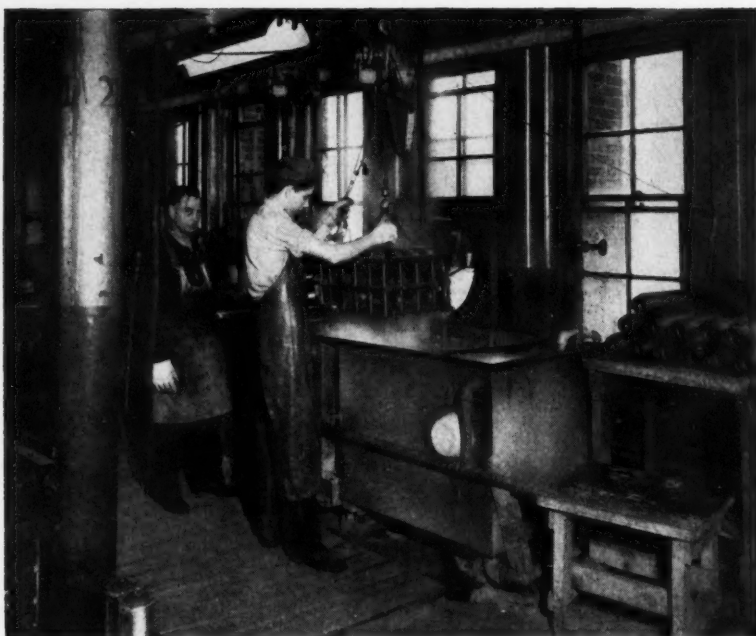

Fig. 8. The Intervening Forming and Machining Operations Make a Second Cleaning Operation Necessary to Remove All Oil, Chips, and Dirt
for the adapter brazing operation. First, however, they are cleaned again (Fig. 8), as in steps (1) and (2). The adapter is then assembled to the nose end of the shell as follows: